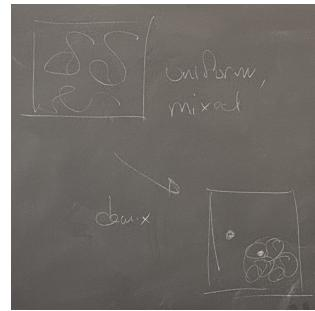

Figure 2.9: Demixing of a polymer-solvent solution.
- Note that one of the phases (e.g., the clumped phase in Figure 2.9) is denoted by a single prime, and the other phase (e.g., the mostly solvent/unclumped phase in Figure 2.9) is denoted by a double prime.